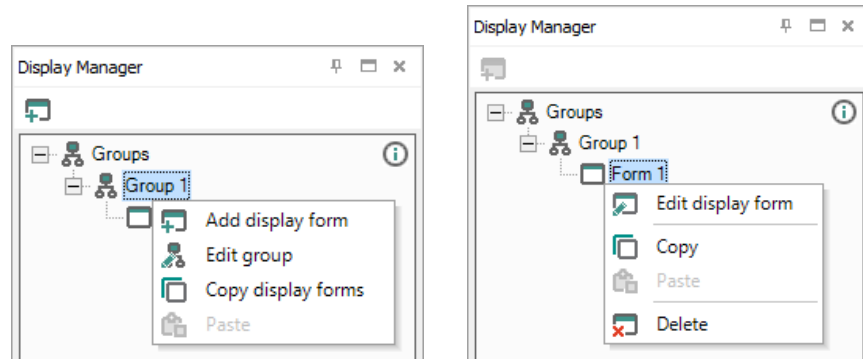

Fig. 8.1
To open the selected form in Display Editor (sect. 8.1), use the command **Edit display form** in the form context menu or double-click the form in the tree (Fig. 8.1).
To open a graphical structure of display forms in Structure Editor (sect. 2.6, 8.2), use the command **Edit group** in the group context menu (Fig. 8.1).
To open a graphical structure of display forms in Structure Editor (sect. 2.6), use the command **Edit group** in the group context menu (Fig. 8.1).
- In Display Manager, use the group context menu or the toolbar icon  (active if the group is selected) (Fig. 8.1).
- In Display Manager, use the item **Delete** in the form context menu (Fig. 8.1).